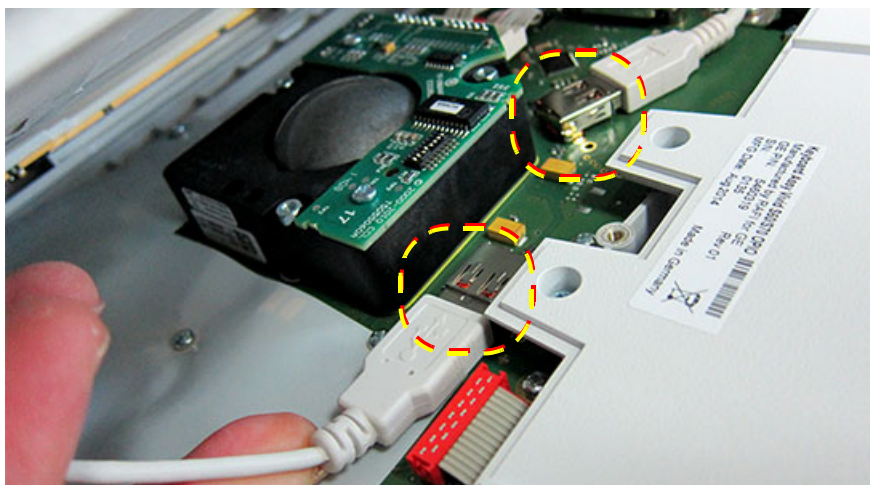

Figure 8-61 Installing Alphanumeric Keyboard/ Bottom Cover on Operator Panel Keyboard Assembly
- 1.) Holding the Alphanumeric Keyboard/Bottom Cover close to the Operator Panel Keyboard Assembly, carefully reconnect the two USB cables to the side of the trackball as shown in Figure 8-61 below..